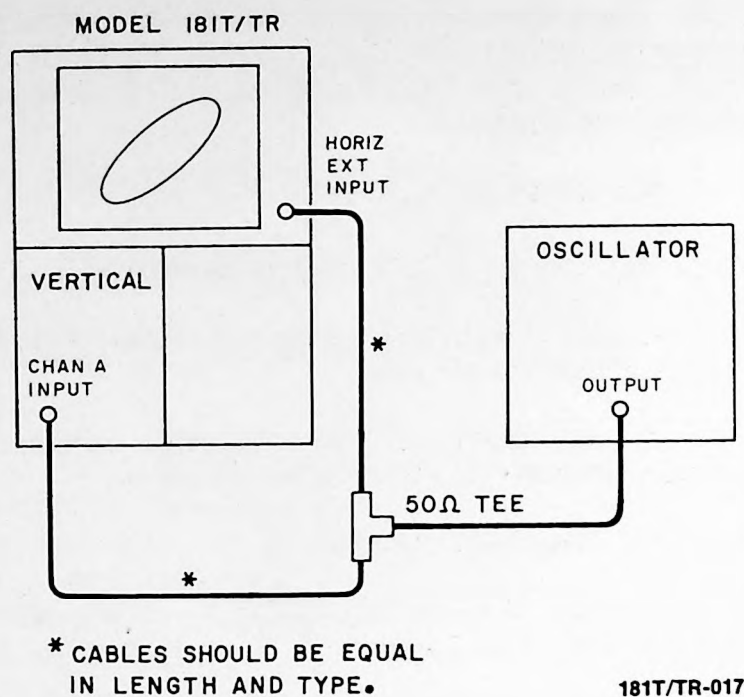

Figure 5-2. Phase Adj. Test Setup
b. Connect 10-kHz sine-wave output of test oscillator to HORIZONTAL EXT INPUT and to vertical plug-in channel A input (figure 5-2).